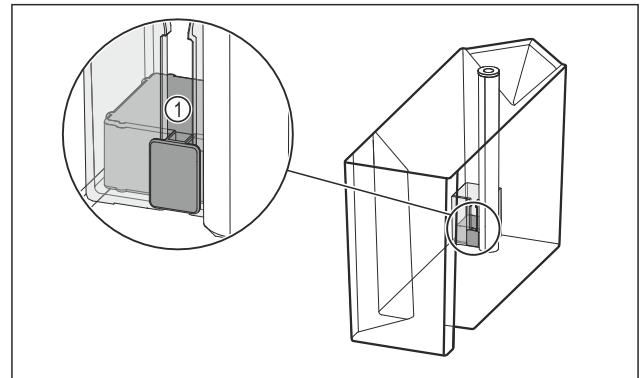

Fig. 102
- ▶ Check whether the float Fig. 102 (1) is jammed.